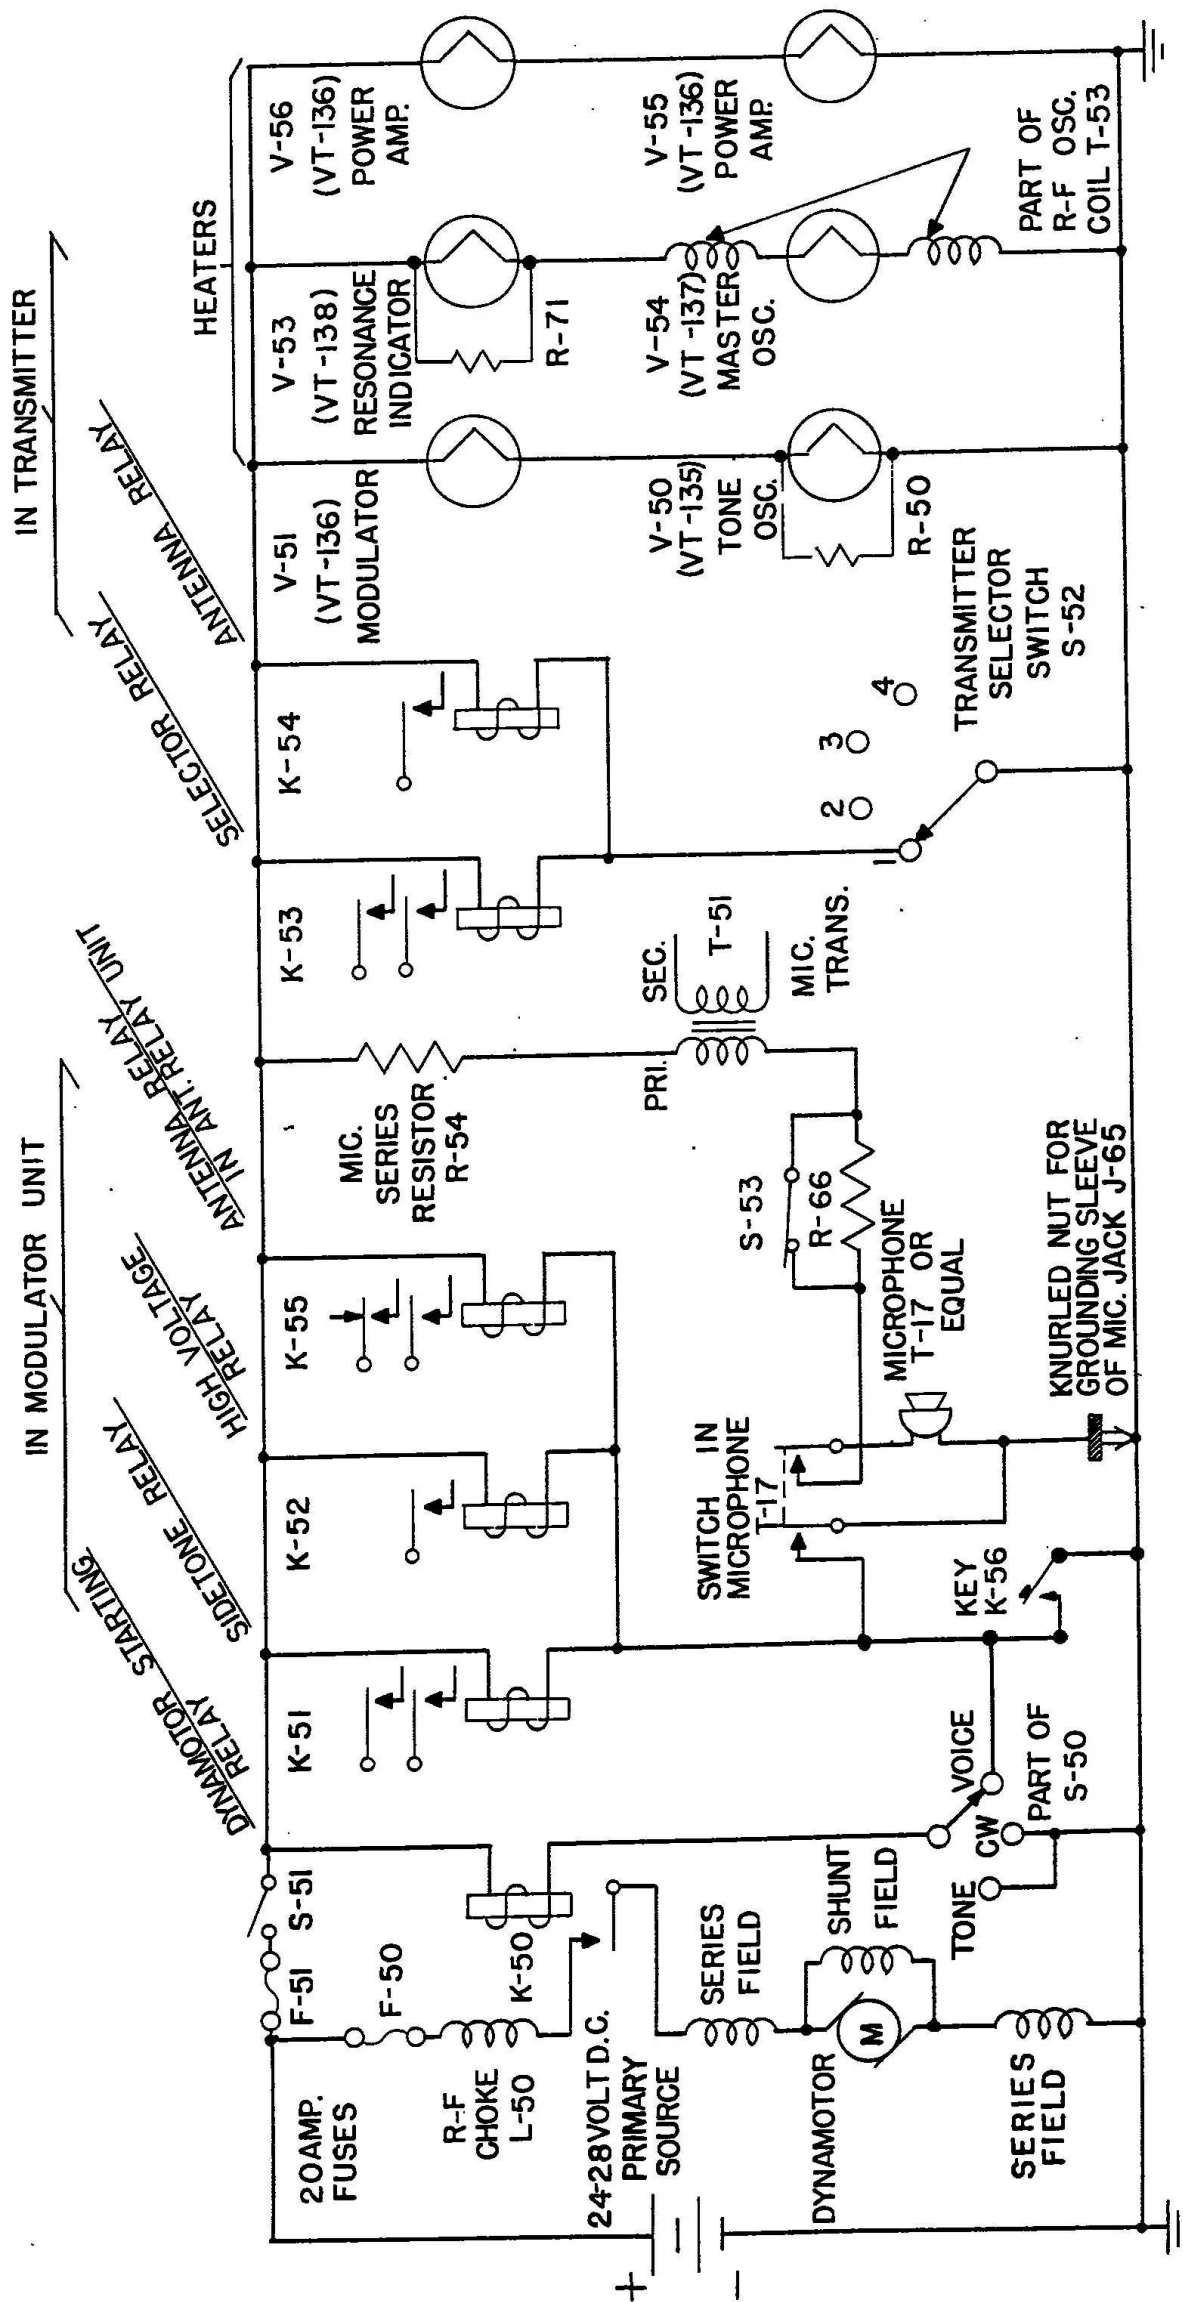

FIGURE 15—FUNCTIONAL DIAGRAM OF THE LOW VOLTAGE D-C CIRCUITS OF THE TRANSMITTING EQUIPMENT
(7) Relays K-53 and K-54 are closed in one of the transmitters when switch S-52 on Radio Control Box BC-451-A is set for that transmitter and TRANS. POWER switch S-51 in the same box is ON. (The transmitters are numbered from left to right in Racks FT-226-A, FT-276-* and FT-331-A. These numbers correspond to the numbers on switch S-52). K-53 closes the plate supply to the master-oscillator and resonance indicator tubes and also short-circuits R-75, a 51,000-ohm resistor in the cathode-to-ground circuit of the r-f power amplifier tubes. Plate and screen voltages are constantly supplied to power amplifier tubes V-55 and V-56 (both Tube VT-136) in all transmitters, but only one transmitter, whose R-75 is short-circuited, is operative. The bias voltage developed across R-75, when it is not short-circuited, is sufficient to reduce the plate and screen current nearly to zero. There is no excitation on the grids of the power amplifier tubes except in the *one* transmitter selected, because the plate supply to the master-oscillator tube V-54 (Tube VT-137) is closed only for that unit.
(8) Relay K-54 transfers the high potential end of the antenna tuning inductor L-52 from ground to the antenna binding post.
(9) The vacuum tube heater circuits are connected in series-parallel and remain energized as long as TRANS. POWER switch S-51 is ON. The arrangement may be seen best in Figure 15.
(10) Racks FT-234-A, FT-226-A, FT-276-* and FT-331-A each contain two ground binding posts and circuits interconnecting Modulator Unit BC-456-A (or -B) with the transmitters and with Antenna Relay Unit BC-442-A.